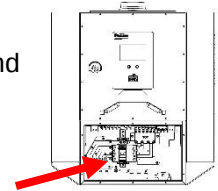

Figure 9 - Open AC Service Panel
1. On uninstalled charger, open AC Service Panel by using a T25 Torx t-handle screwdriver to remove all screws around panel's perimeter (Figure 9).